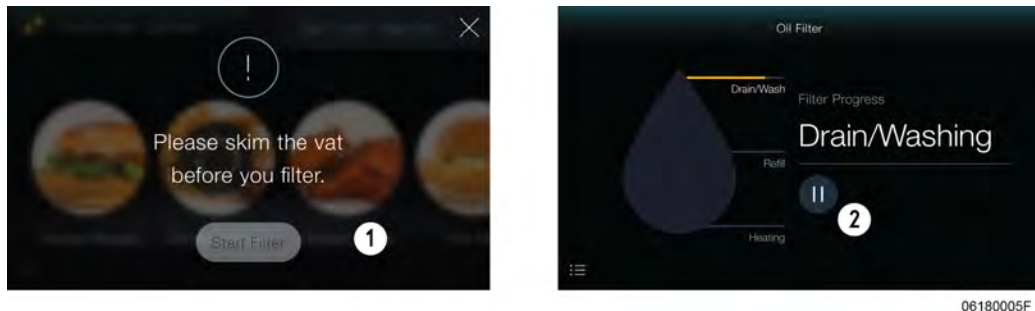

Figure 4-14
- 2) **Skim vat** - Use a skimming tool (not provided with the F5) to skim the top of the oil to remove floating crumbs and product from the surface of the oil, and then confirm by tapping **OK**, see (1) in Figure 4-14 , page 28.
- 3) **Drain / Wash** - Oil drains to the filter pan and pumps to wash crumbs down the open drain, see (2) in Figure 4-14 , page 28.